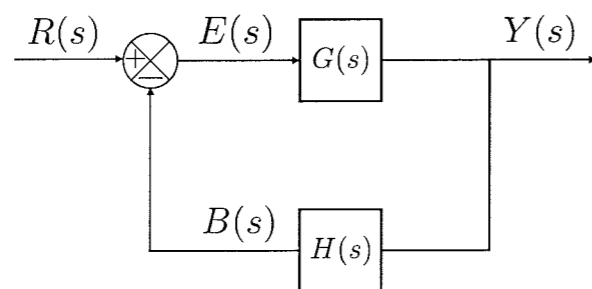

Figure 1: The "Standard" Closed Loop Control System
- Derive an expression for the closed loop transfer function $\frac{Y(s)}{R(s)}$ in terms of the system dynamics $G(s)$ and the feedback multiplier $H(s)$ for the system shown in Figure 1. (5 Marks)